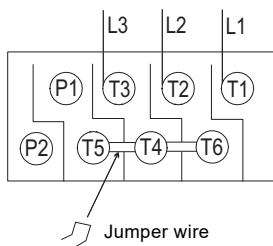

Fig. 15 Speed 1 (low speed)
- figure 15 for speed 1 - low speed